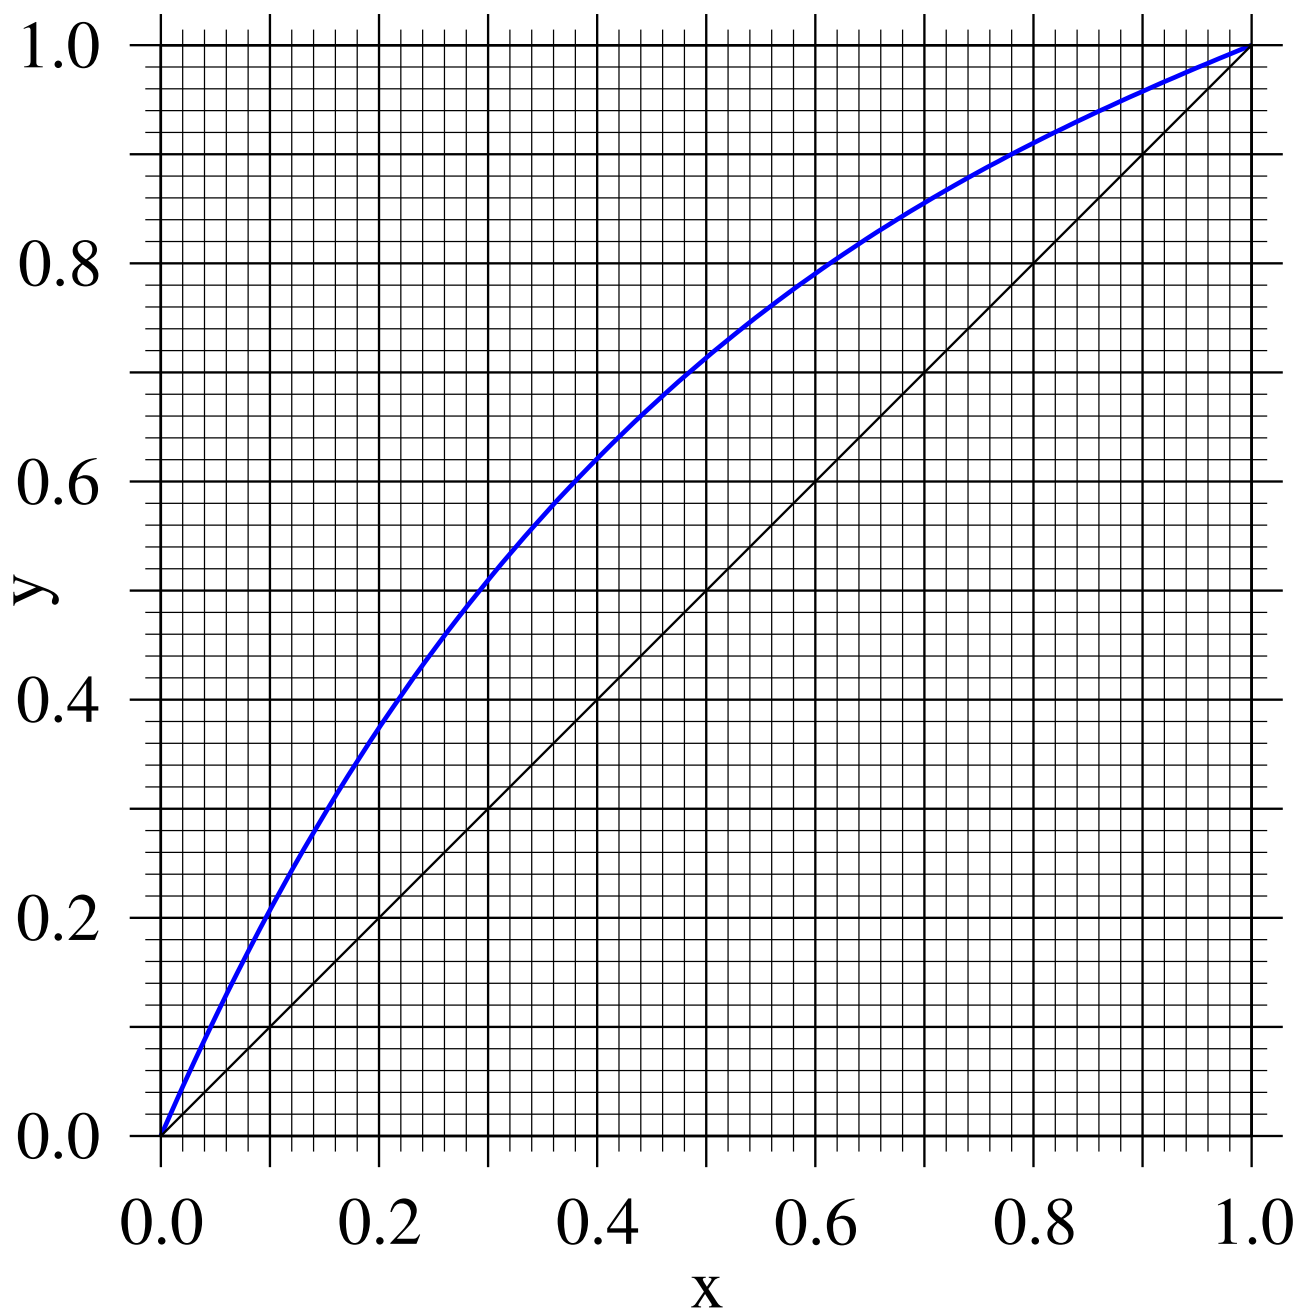
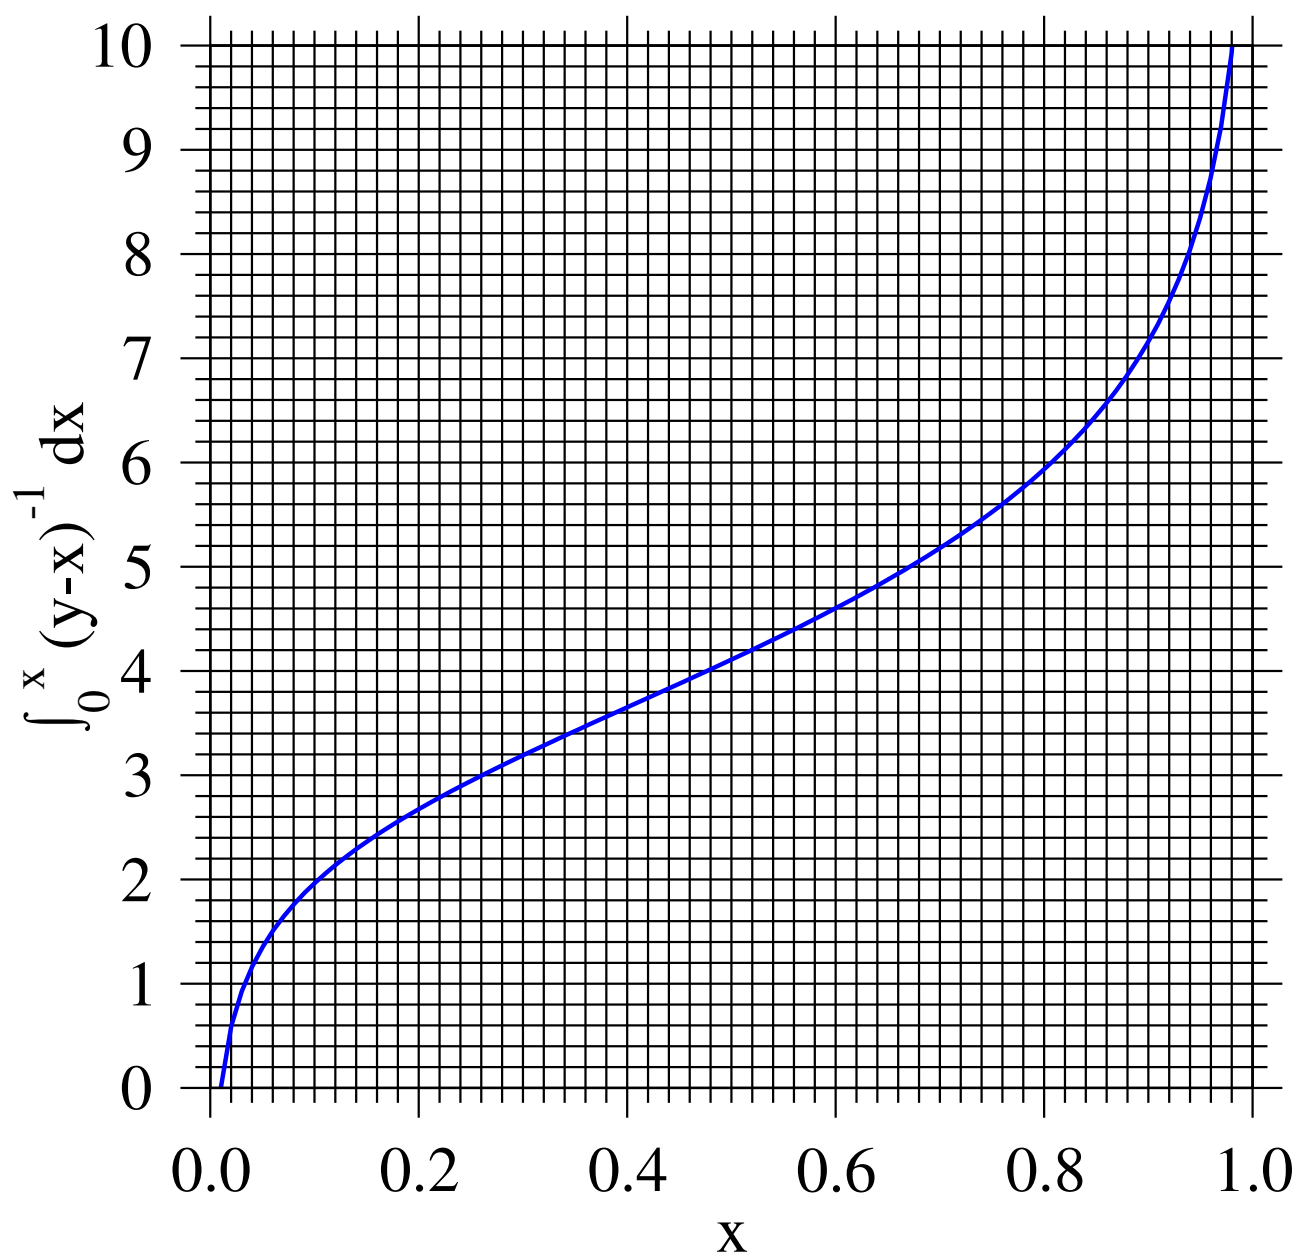

Figure 16: VLE data for benzene(x/y)-toluene mixtures. For use in Q. 19, 20, and 30.
Figure 17: Integrated VLE data for benzene(x/y)-toluene mixtures. For use in Q. 19 and 20.
- a) What is the outlet concentration of the vapour and liquid streams from a flash drum? The flash drum is operated so that only 20% of the feed stream is vapourised. x - y VLE data is available in Fig. 16. [7 marks]
- b) What is the average vapour concentration and the final liquid concentration if the same feed is supplied to a single-stage batch still instead? You should assume the same proportion of vapour is produced as in the flash drum. Integrated VLE data is available in Fig. 17 for this calculation. [8 marks]
A 10,000 kmol benzene-toluene mixture is sent for batch distillation at atmospheric pressure. Integrated VLE data is available in Fig. 17 and standard VLE data is available in Fig. 16.
Using Fig. 16, the liquid in equilibrium with a $y = 0.6$ mixture is $x = 0.38$.